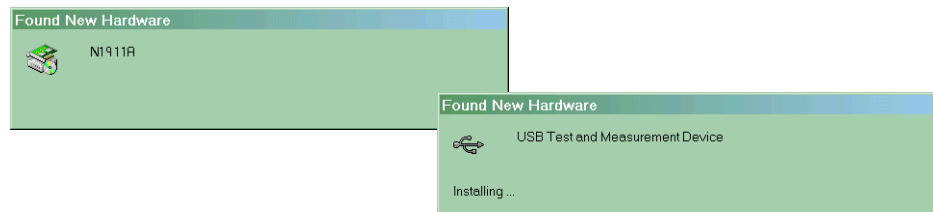

Figure 1-1 Example of initial connection Windows
- 2 The PC confirms the hardware connection as shown in **Figure 1-1**.